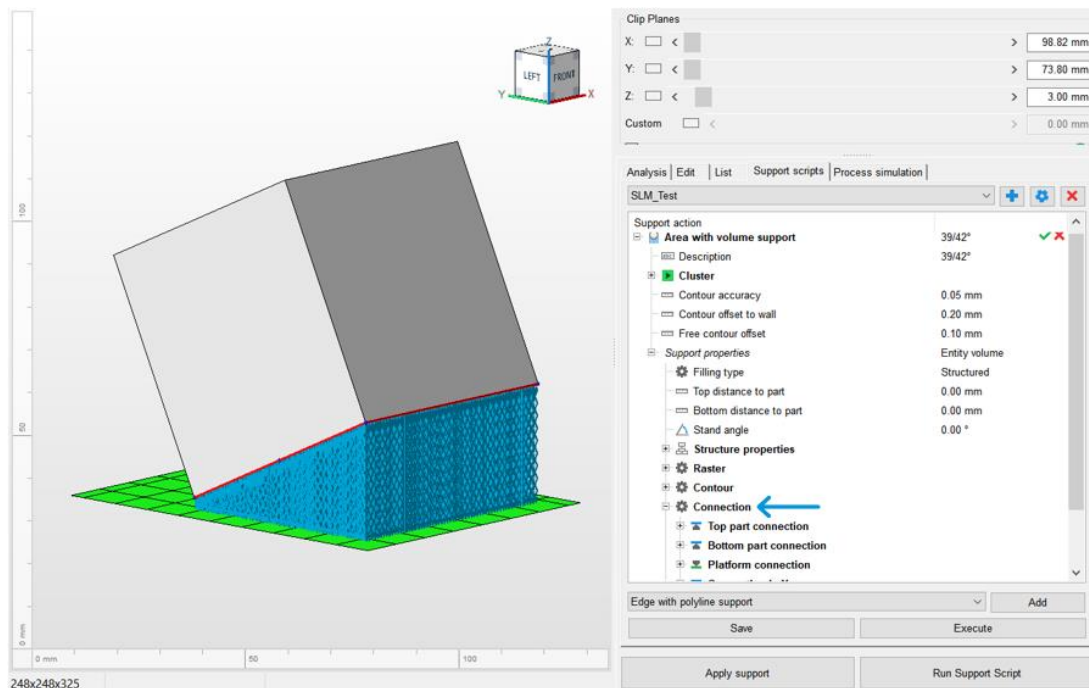

Figure 13: "Connection" settings found under Support Scripts dialog in Autodesk Netfabb
1. **Re-design support structures.** A large benefit of the Netfabb Simulation tool is that it specifies the region of concern of support structure failure. This allows engineers and manufacturers to go back to the design and modify and strengthen the supports at that region of concern. This can be done by adding more points of contact at the part-support interface, increasing the surface area of supports, or using an entirely different type of support structure. In Autodesk Netfabb, numerous support types are available to choose from such as bar, polyline or volume. Supports can either be generated manually or automatically by using the support scripts dialog. Modify the connection points at the part-support interface by going to the Support Scripts dialog, expanding Support Properties > Connection (see Figure 13). More details on support settings can be found here and here.